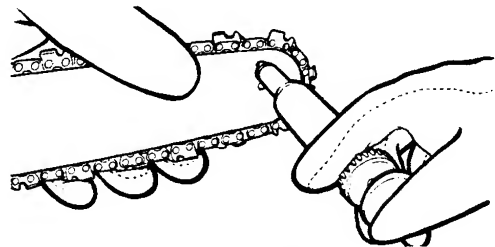

Fig. 32
3. Using the Lube Gun (optional), insert tip of lube gun into the lubrication hole and inject grease until it appears at outside edge of sprocket tip (Fig. 32).